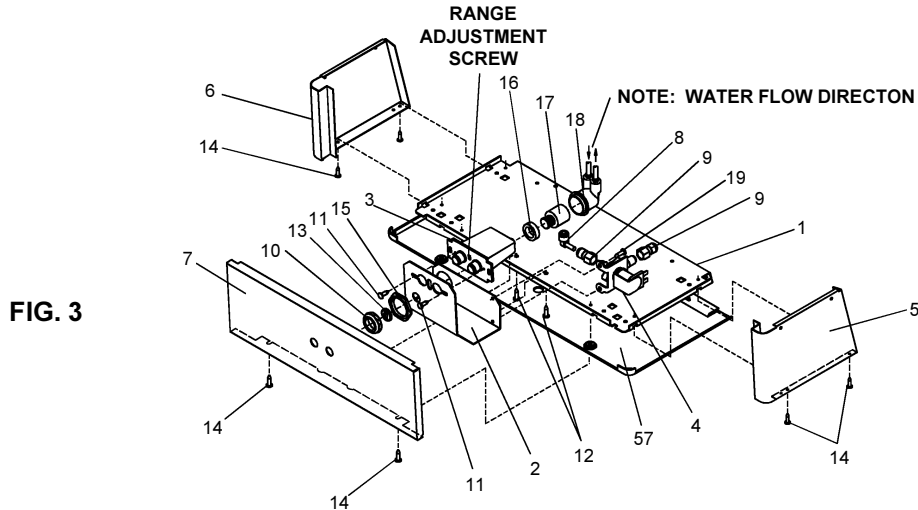

FIG. 3
- B. Using a small tip screwdriver, rotate range adjustment screw clockwise to increase range and counterclockwise to decrease range (See Fig. 3).
- 8) Stream height is factory set at 35 PSI. If supply pressure varies greatly from this, adjust screw, accessible by removing front panel (Item 7, Fig. 3). CW adjustment will raise stream and CCW adjustment will lower stream. For best adjustment, stream should hit basin approximately 6-1/2" (165mm) from bubbler.
- 9) Replace the front panel and secure by retightening four (4) screws.